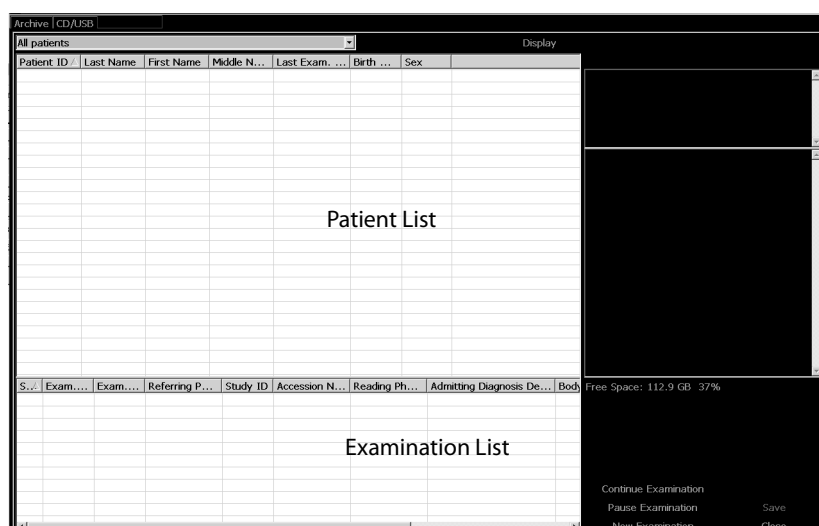

Figure 6-8. The Archive window.
- 1 Click in the comment window (see Fig 6-8).